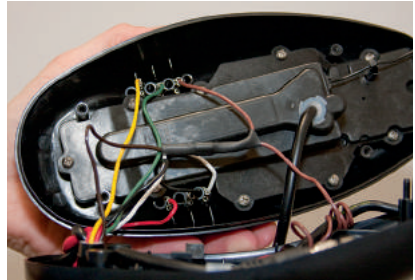

FIGURE 18 Insert **AutoPilot** wires into terminal holders.
- a. For **Powerdrive V2 Motors**: Using a needle-nose pliers push all six **AutoPilot** connectors that were disconnected in step 4 onto terminal holders located on the underside of the i-Pilot Link Controller. (Figure 18)